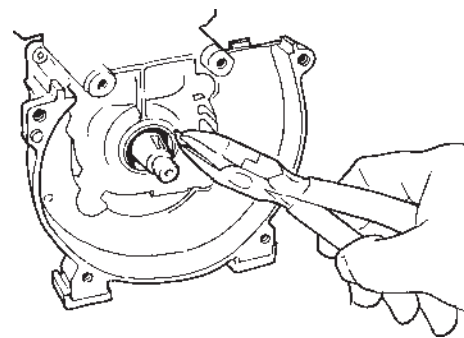

Figure 8.2 Removing the Woodruff key from the crankshaft.
**STEP 4.** Use diagonal pliers to remove the crankshaft woodruff key (Figure 8.2).